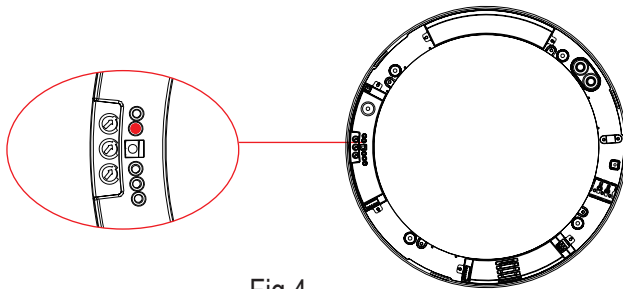

Fig.4
1、 There is an optical sensor inside the lamp(as fig.4),during the installation,it should be turned to where the sunshine is sufficient.At the same time,it should avoid other light sources,which will influence the judgement of optical sensor to the ambient illumination.